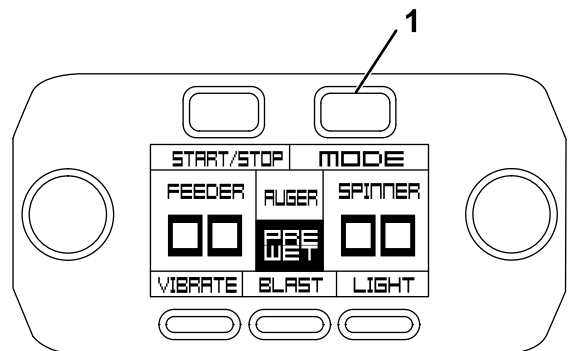

Figure 52
- To deactivate the pre-wet system, press the Mode button on the controller (Figure 52).